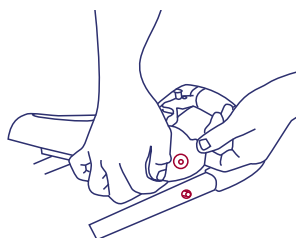

Figure 9C.
- To attach the parent tray, align the fittings on the ends of the parent tray with the fittings on the outsides of the handle. Hook one end of the tray on so that the fitting on the handle protrudes from the hole in the parent tray. Pull outward on the opposite end while pushing down on the tray until locked onto the stroller handle. Please be careful not to pinch your finger when installing the parent tray. Please see figure 9C. To remove the parent tray, pull outward on one end of the tray while lifting upward.